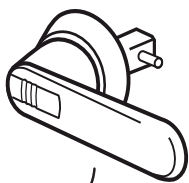

Fig. 1
1. Supply power to the unit by turning the master switch to the ON position; see (fig1.) The display will switch on a few seconds after voltage has been supplied; check that the operating status is on OFF (OFF BY KEY B on lower side of the display).